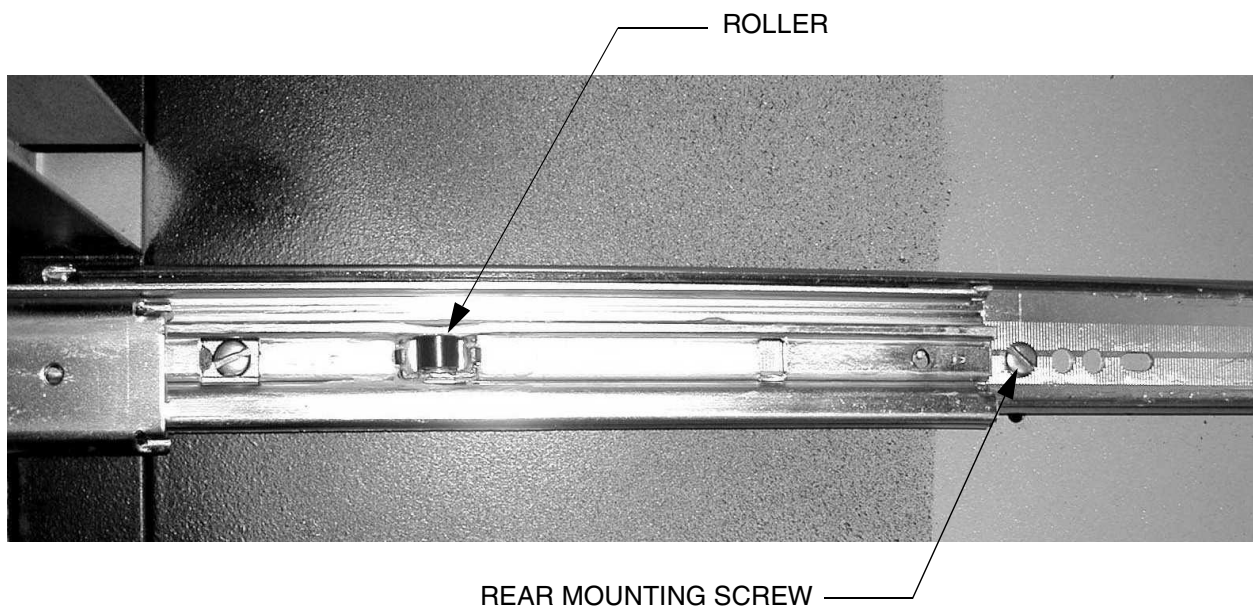

FIGURE 4. Slide Rear Mounting Location (left side shown)
9. Temporarily fasten the slide to the cabinet with an 8-32 x 3/8 in. pan head screw. Level the slide and mark its rear mounting location at the fourth hole from the rear of the slide as shown in Figure 4.